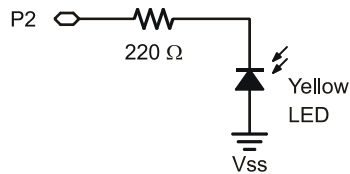
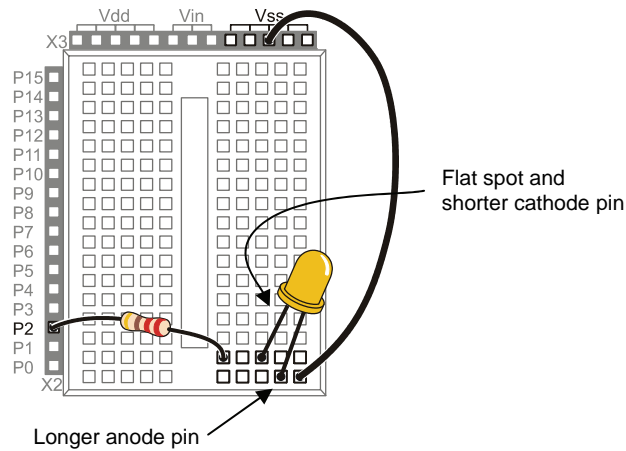

Figure 7-22
Figure 7-23
One major difference between the LED and phototransistor is that the LED conducts much less current for the same amount of light, so it takes very bright light for the LED to conduct enough current to discharge the capacitor quickly enough for the **RCTIME** measurement. Remember that the maximum time measurement the **RCTIME** can measure is $65535 \times 2 \mu\text{s} \approx 131 \text{ ms}$. So for good RC decay measurements with the BASIC Stamp, a much smaller capacitor is needed. In fact, the circuit works better without any external capacitor. The LED has a small amount of capacitance inside it, called *junction capacitance*, and the metal clips that hold wires you plug into the breadboard also have capacitance. Reason being, a capacitor is two metal plates separated by an insulator called a dielectric. So two metal clips inside the breadboard separated by plastic and air forms a capacitor. The combination of the LED's junction capacitance and the breadboard's clip capacitance makes it so that you can use the LED without any external capacitor, as shown in Figure 7-22.
- ✓ Build the circuit shown in Figure 7-22 and Figure 7-23, using the yellow LED. Make sure to observe the polarity shown in the figures!
- ✓ Start with a green LED in the Figure 7-22 and Figure 7-23 light detection circuit.